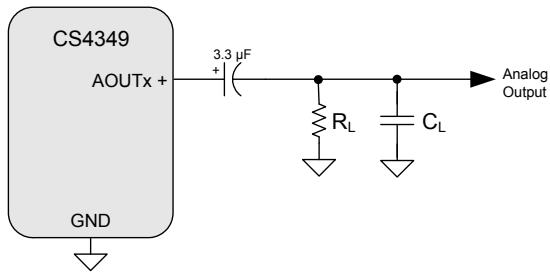
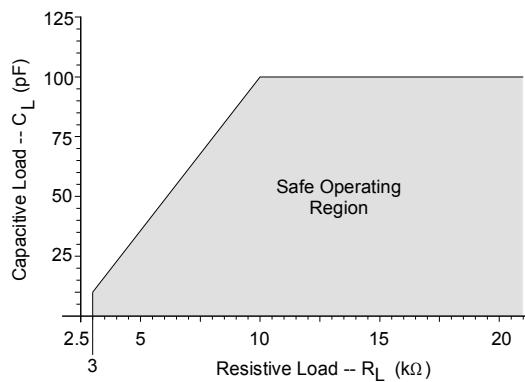

Figure 1. Output Test Load
Figure 2. Maximum Loading
- 4. R_L and C_L represent the minimum resistance and maximum capacitance required for the CS4349's internal op-amp to remain stable. See Figure 1 and Figure 2 for more details.